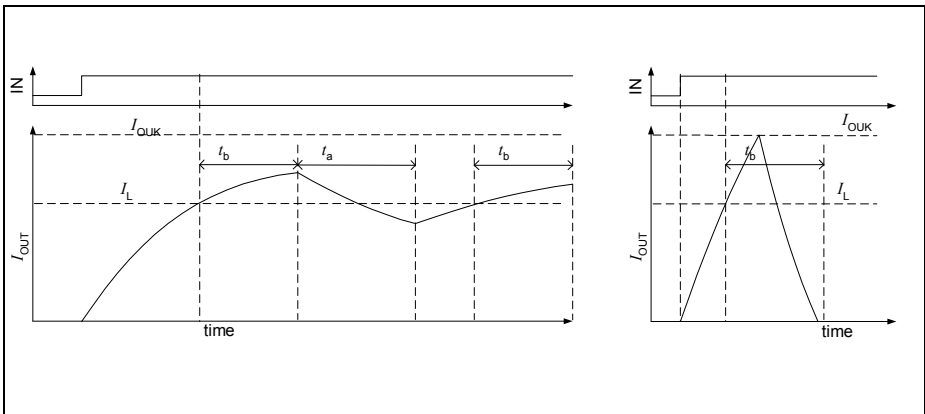

Figure 5 Short to V_S detection. Left: normal operation. Right: short circuit is detected
Due to the chopper current regulation, the low-side switches are already protected against a short to the supply voltage. To be able to distinguish a short circuit from normal current limit operation, the current limitation is deactivated for the blanking time t_b after the current has exceeded the current limit threshold I_L . If the short circuit detection current I_{OUK} is reached within this blanking time, a short circuit is detected (see **Figure 5**). All output transistors are turned OFF and the according error bit “Short Circuit to Battery on output 1 (2)”, SCB1 (SCB2) is set.